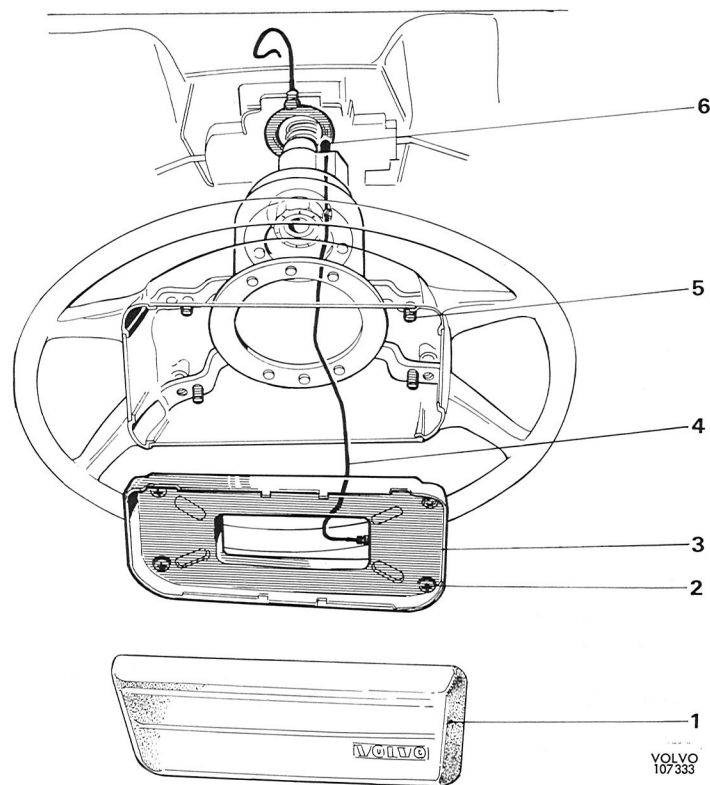

Fig. 3-136. Contact bar
1. Remove the impact guard (1, Fig. 3-136). (Carefully lever it loose with the help of a screwdriver.)
2. Disconnect the electric wire (4, Fig. 3-136) from the contact bar (3, Fig. 3-136).
3. Remove the four attaching screws (2, Fig. 3-136) for the contact bar and lift off the bar. Installation of the contact bar is in reverse order to removal. After installation, check the flasher function.